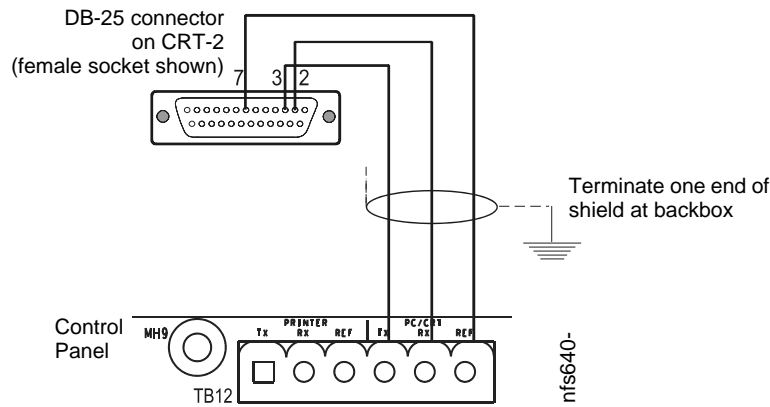

Figure 3.27 Connecting a CRT-2
1. Connect the three (3) open leads of the custom cable to the TB12 terminal block on the control panel as shown in Figure 3.27.